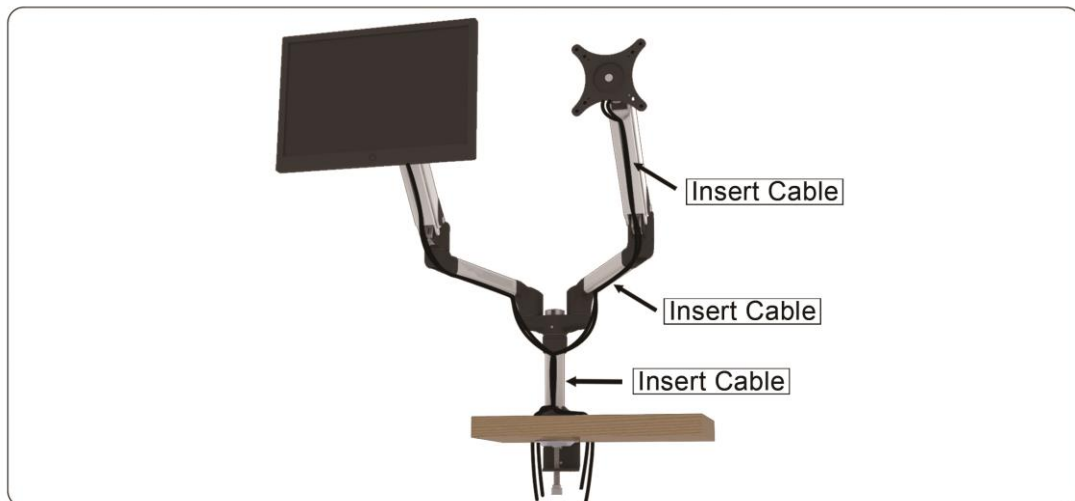

Figure 4-1
1. Adjust the arms to its fully extended position to ensure that the cables are not stretched or pulled when the monitor is moved. Connect cables to monitor (**See Figure 4-1**).